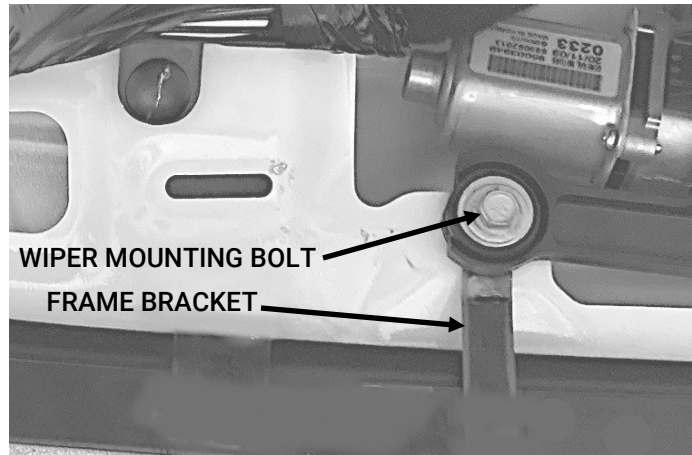

Fig. 6
- D. Slide guard frame upper left bracket behind motor mounting and on top of clip nut. Be careful not to knock clip nut off. Align all and re-fasten wiper mounting bolt. (Fig. 6)